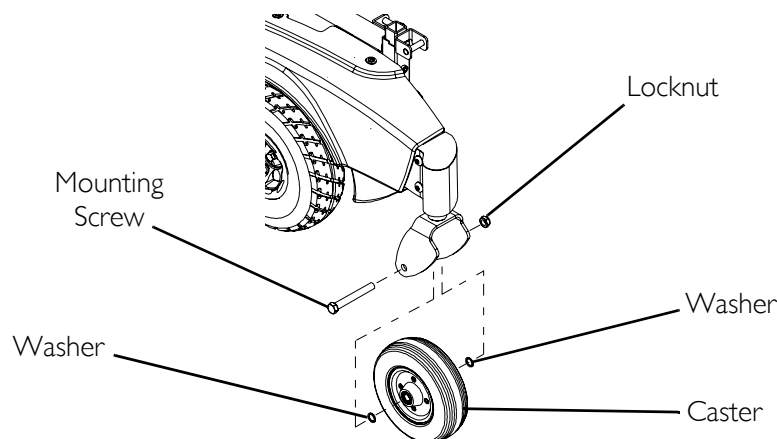

FIGURE 10.3 Replacing Front/Rear Caster Assemblies
NOTE: For this procedure, refer to FIGURE 10.3.
3. Secure new caster to fork with existing mounting screw, two washers and locknut (FIGURE 10.3). Securely tighten.